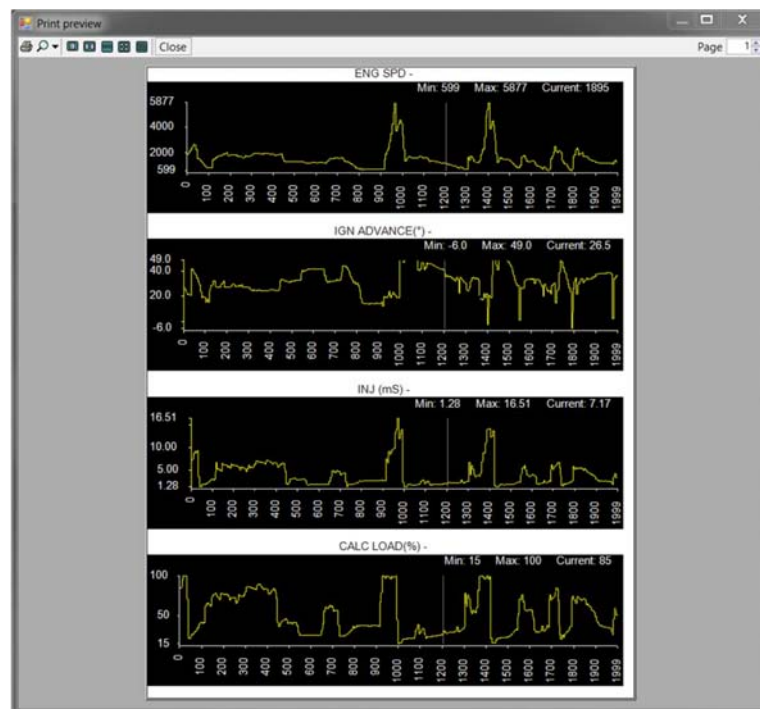

Figure 7-4 Print preview window
- b. If Graph(s) Print Preview was selected, a preview window opens (Figure 7-4). Select the printer icon to send the file to the printer.